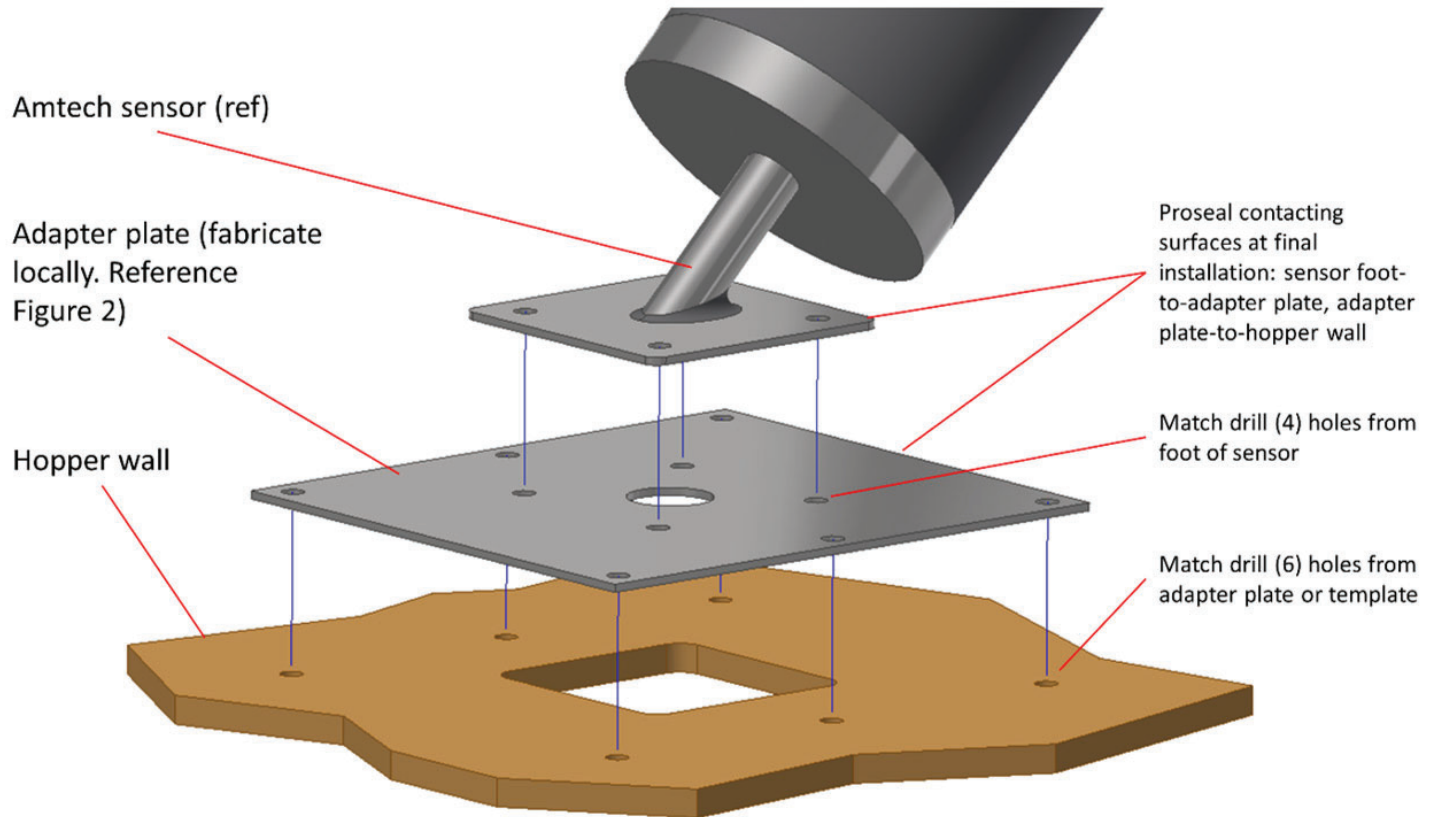

Figure 6 - Adapter Plate Installation
- a. Match drill the 4 holes for mounting the Amtech sensor into the adapter plate. Reference Figure 6.
- b. Match drill the 6 outer holes from the adapter plate into bottom/back wall of the hopper. Reference Figure 6.
5. Install Adapter Plate and re-install Amtech sensor using proseal and new hardware. Reference Figure 6.